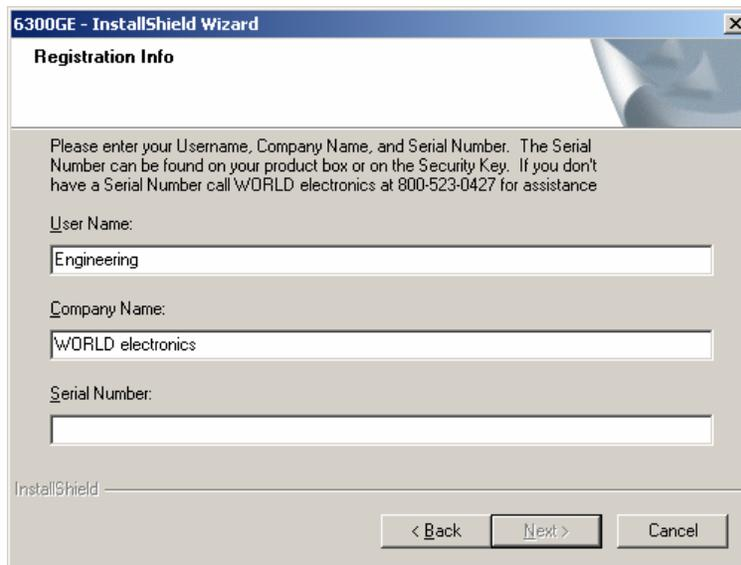

Figure 6
3. After selecting **Next**, a **Registration Info** window will appear as in Figure 6. In this window, the user will need to fill in the fields beside **User Name**, **Company Name**, and **Serial Number**. The Serial Number can be obtained from a label located on the 6300GE Module's Security Key. A second location where the serial number can be found is the side of the 6300GE Software Module's Product Box.